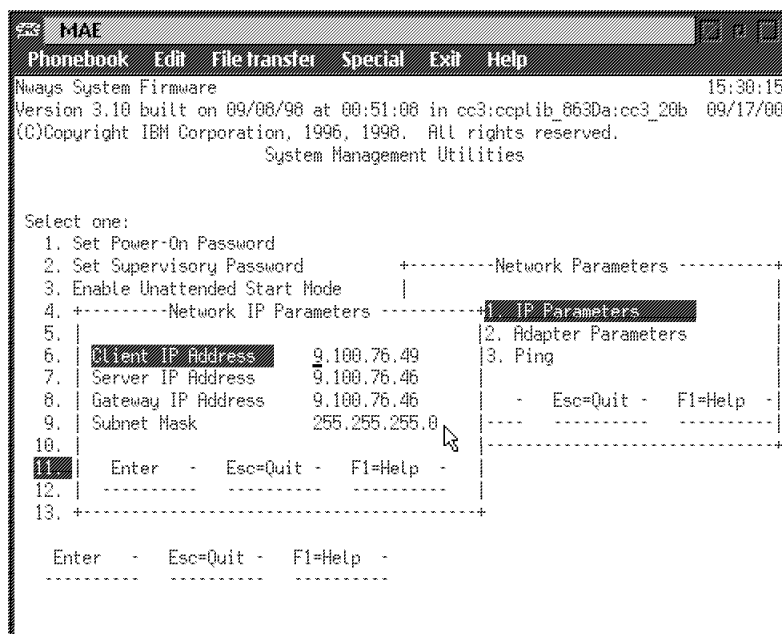

Figure 12. MAE
2. Refer to Figure 12 on page 18, and according to what you recorded in step 4 on page 7 , enter the **Client IP address** (MAE address of the PCMCIA card), **Server IP address** (service processor address), **Gateway IP address** (if no router on the ring, enter the service processor IP address), the **subnet mask**, then press **Enter**.